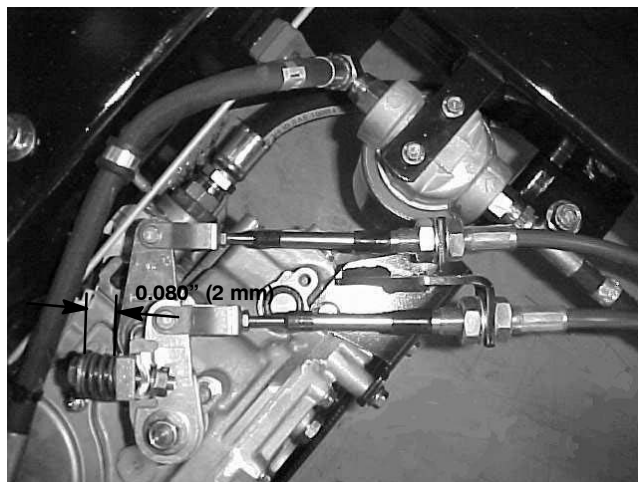

Figure 83
A. Apply multi-purpose grease on lips of three (3) new oil seals (Item 14). Install oil seals into transaxle case.
B. Position three (3) keeper plates (Item 13) and secure with three (3) cap screws (Item 12). Torque cap screws from 11 to 13 ft-lb (15 to 17 N-m).
E. Install 2nd-3rd shift arm assembly (Item 8, 7, 6, 5, 4, 3, 2, and 1). Tighten cap screw (Item 5) and lock nut (Item 5) until compression spring length is 0.080" (2 mm) (Fig. 83).